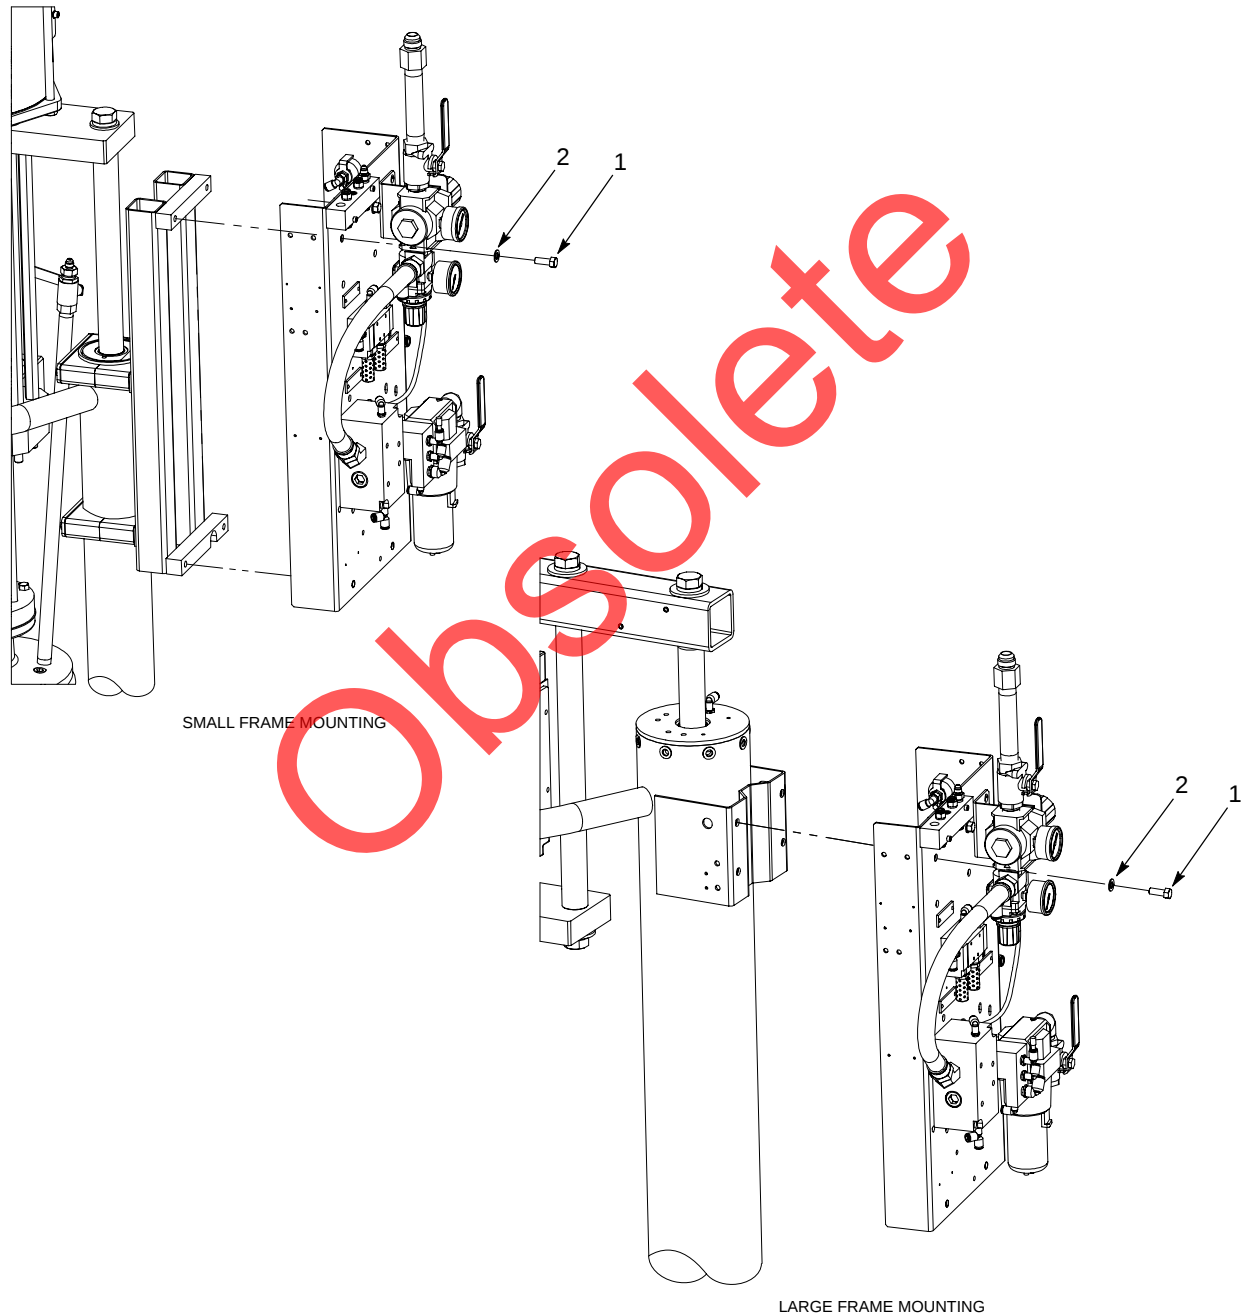

Figure 3 Installing the Control Module (Typical)
See Figure 3. Mount the Control Module onto the bulk unloader using the supplied screws (1) and washers (2). Tighten the screws securely.